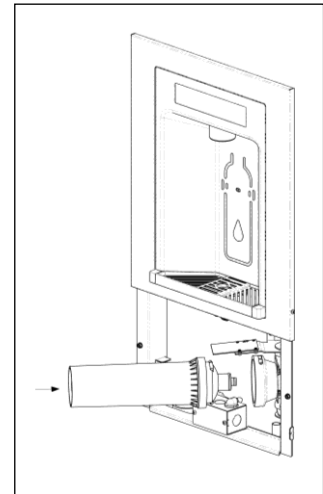

Figure 2: Filter Replacement
1. Remove the (2) lower panel screws (T20 Torx). Then remove the lower panel by sliding down and away from the unit.
4. Swivel filter outwards and remove by turning about ¼ turn counterclockwise and pulling outwards. See Figure 2.